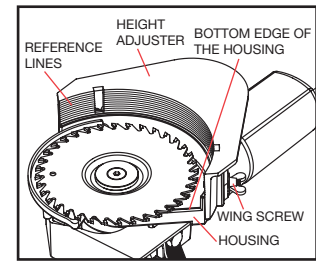

Figure 4
HEIGHT ADJUSTMENT: see Figure 4
- Use the reference lines as a guide (Fig. 4). The housing must be set parallel to the floor. Make certain that the bottom edge of the housing is set parallel with a